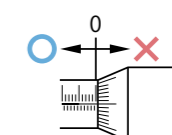

Fig. 3
1. Do not retract the spindle too far past the upper limit of the measuring range, as this can damage some types of digital micrometer. (Fig. 3)